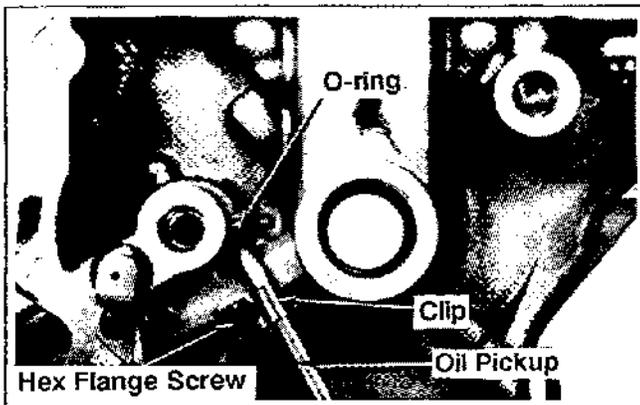

Figure 11-15. Installing Oil Pickup Components.
1. Install the oil pickup, O-ring, clip, and hex flange screw. See Figure 11-15.